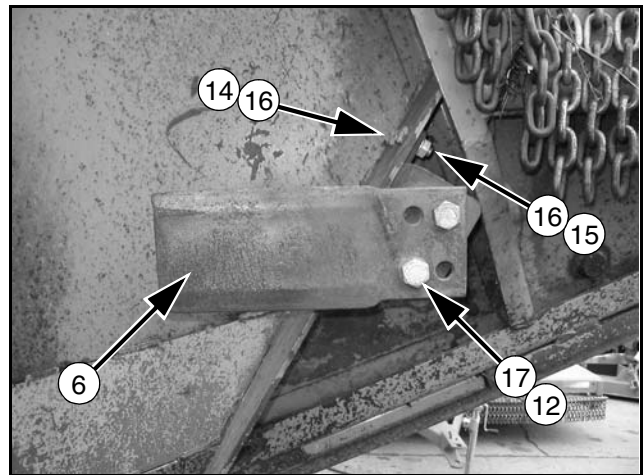

Figure 41. Stationary Blade Installed, Right Wing
- Attach stationary blade (6) to bent stationary mounting bracket (7) using two cap screws (12), four (two on each side) hardened flat washers (17) and lock nuts (13). Blade should be angled by using the first hole on the left side and the second hole on the right side. Refer to Figure 41.
- Place mounting bracket (7) to the rear side of the front baffle and clamp into position.
- Secure mounting bracket to the front side of the baffle using four cap screws (14), eight (four on each side) hardened flat washers (16) and lock nuts (15). See Figure 41.